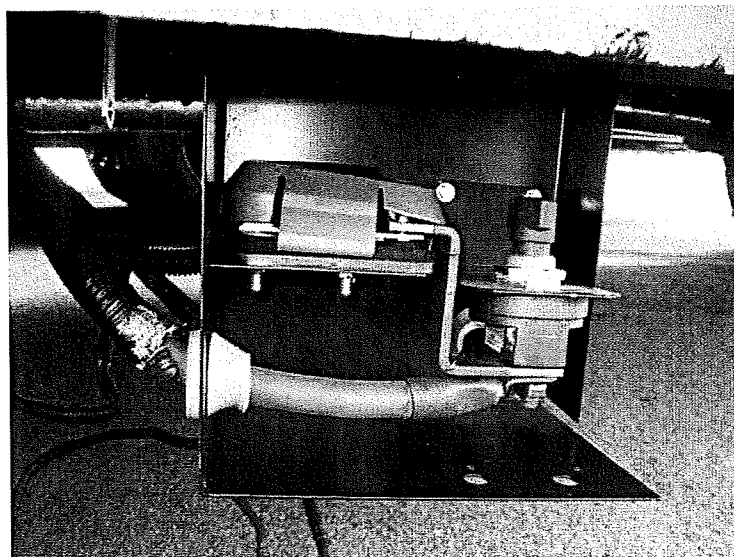

Figure 10
19. Remove the tape and pull back about eight (8) inches of loom from the Starter power cable. Feed the Starter power cable through the front side grommet in the enclosure. Install the Starter power cable on the front terminal of the Disconnect Switch (on top of the buss bar) and secure using the existing hardware and torque to 11-15 ft-lbs. Cut off the excess loom from the Starter power cable just past the grommet. **Figure 10**